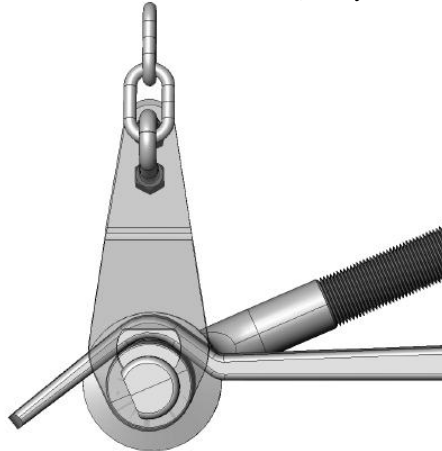

Figure 14
6. Check that the cam is properly seated properly in the detent of the spring bar (figure 14). If the cam arm assembly dose not automatically seat in the detent of the spring bar, rap the end of the cam arm with a mallet or hammer until it seats into the spring bar detent as shown in figure 14.
2. Go to each cam arm and check to see that the cam is perfectly centered in the detent of the spring bar. Make adjustments to the cam arm length as required, it is important to have the cam arm/spring bar detent exactly as shown in figure 14.
3. Before adjustments to the cam arm length can be made, raise the trailer tongue jack and lower the snap-up brackets. Loosen the Locking nut (figure 5) and move the adjustment nut (figure 5) until the cam is centered into the detent of the spring bar (figure 14). After making adjustments, lift both snap-up brackets and install retainer clips; lower the trailer tongue jack. Repeat step 2 of this section